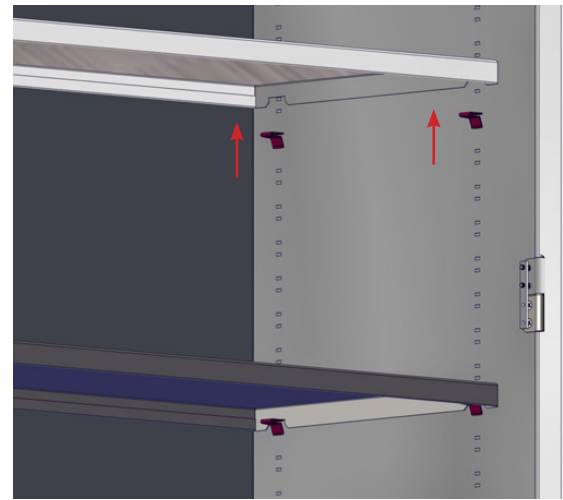

Fig. 19: Remove Shelf from Support Tabs
2. Remove the shelf and determine its new position (Fig. 19).